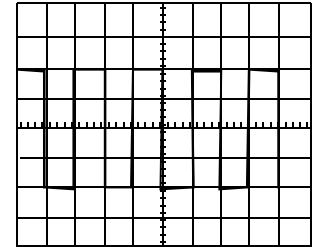

Figure 4-4
5)Set the AC-GND-DC switch to the AC state.A waveform as shown in the figure 4-4 Will be displayed on the CRT screen.